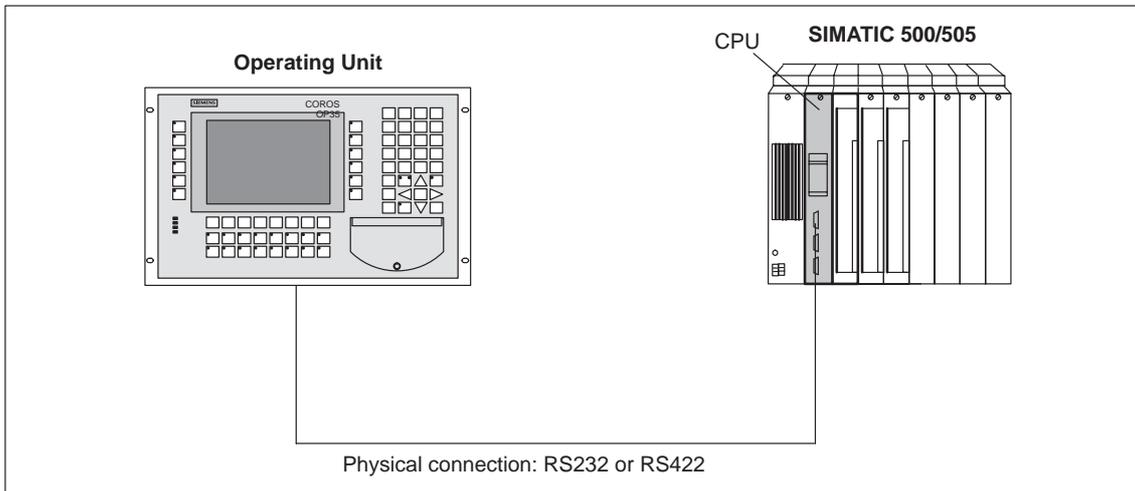

Figure 1-10 SIMATIC 500/505 Connection
**Interface** The operating unit is connected via the programming interface of the CPU to the SIMATIC 500/505 (figure 1-10).